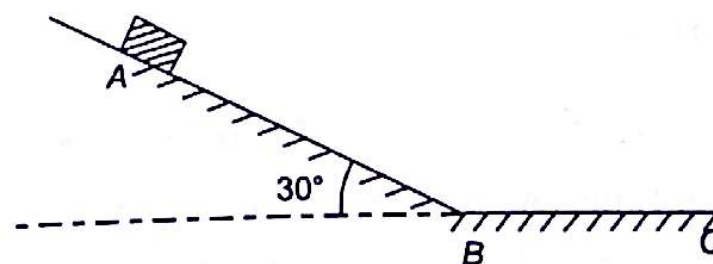

Fig. 14.23
- 14.5 A small block starts from rest at point A as shown in Fig. 14.23 and slides down the inclined plane AB, 20 m long. What distance the block will travel along the horizontal track BC before coming to rest. The coefficient of friction between track and block is 0.30 . It is assumed that the block will start moving along BC with same velocity which it acquired while sliding down. Coefficient of friction between plane AB and track is 0.3 .